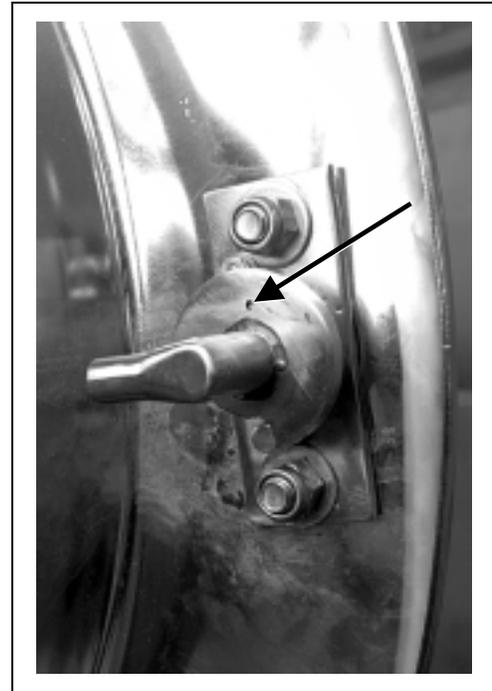

FIGURE 10 (MSSM0288AE)
4. Rotate shaft counter-clockwise until the locking mechanism notch lines up with the finger and push in fully (FIGURES 10 and 11).